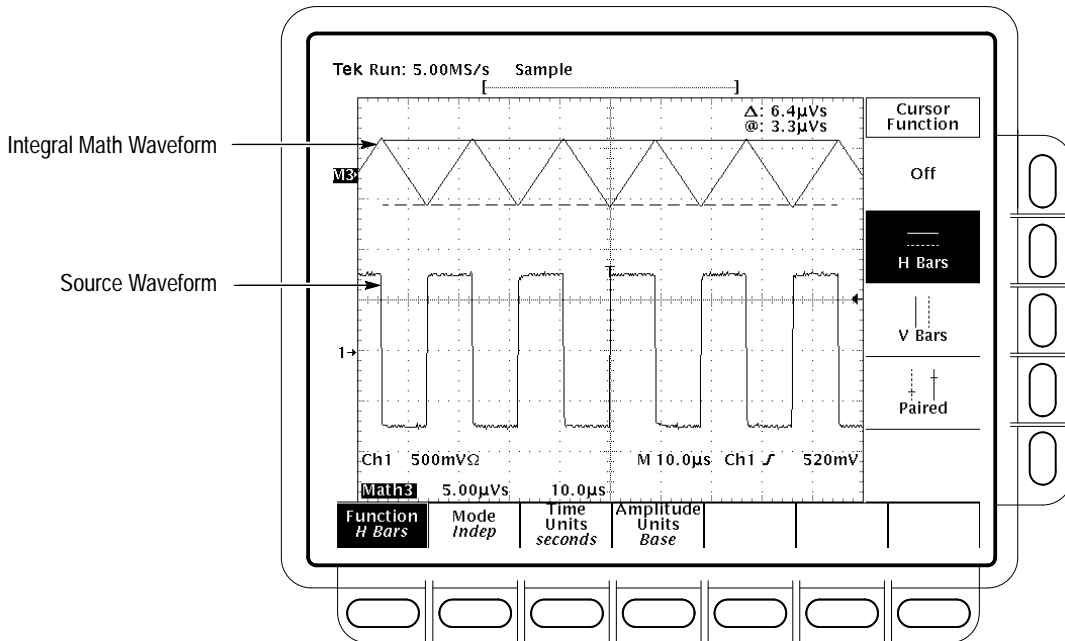

Figure 3-98: H Bars Cursors Measure an Integral Math Waveform
6. Read the integrated voltage over time between the cursors in volt-seconds from the **Δ**: readout. Read the integrated voltage over time between the selected cursor and the reference indicator of the math waveform from the **@**: readout. (See Figure 3-98.)